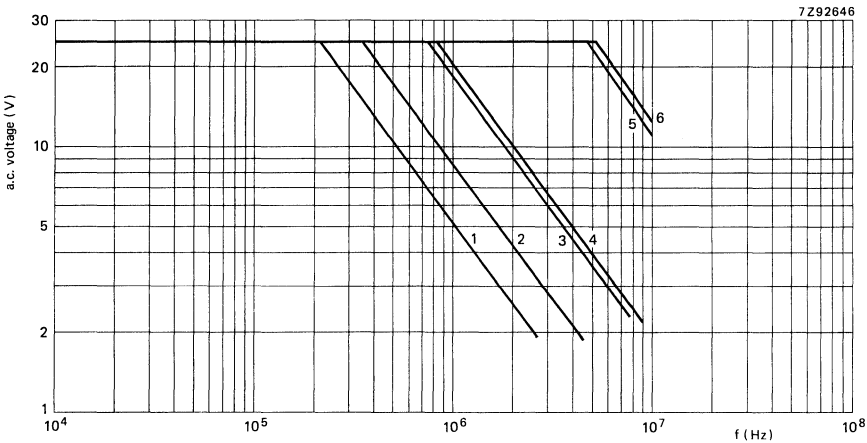

Fig. 7 Maximum a.c. voltage (r.m.s. value) as a function of frequency at $T_{amb} \leq 55 \text{ }^\circ\text{C}$.
* At $T_{\text{amb}} \leq 55 \text{ }^\circ\text{C}$ the maximum permissible sinusoidal voltage can be found in Fig. 7.